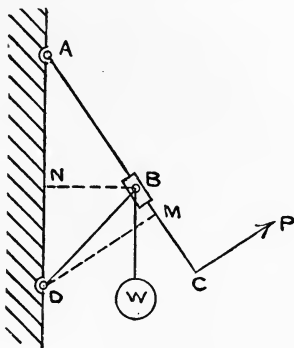

Fig. 1.
1. In the mechanism shewn in Fig. 1, the part B can slide without friction along AC . If the force P balances W prove that